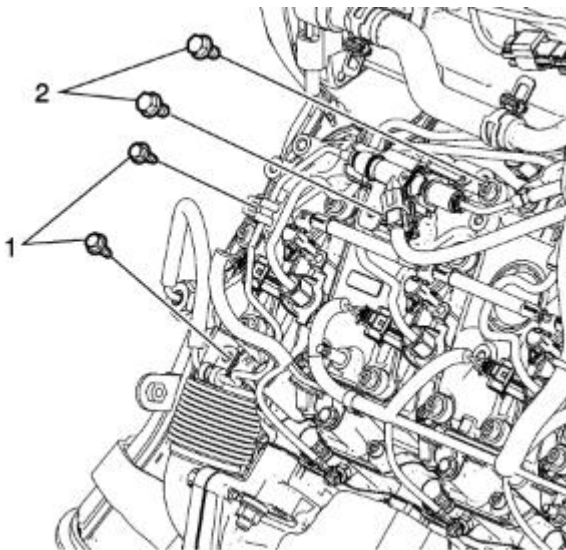
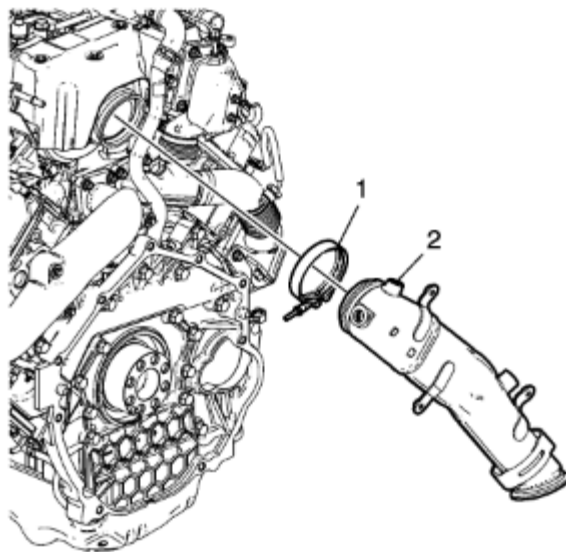

Fig. 13: Dosing injector bolt removal
Fig. 15: Exhaust adapter removal
- c. Remove the NOx sensor (figure 11) and the exhaust temperature sensor (figure 13).
- d. Remove the bolts retaining the dosing injector and the fuel feed pipe clip (items labeled 1 and 2 in figure 13). Using a CH49736 QD removal tool, disconnect the dosing injector from the fitting and remove the dosing injector assembly as shown in figure 15.